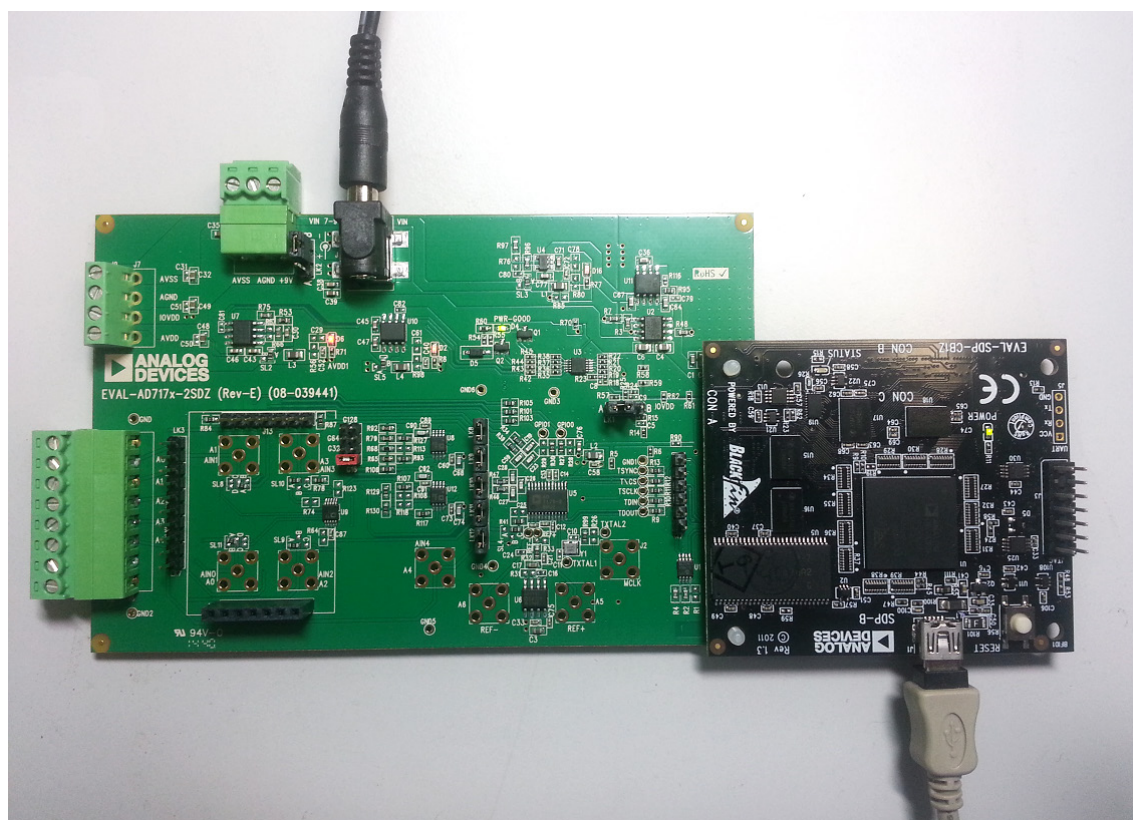

Figure 2. Hardware Configuration, Setting Up the EVAL-AD7175-2SDZ Evaluation Board
2. Connect the **SDP-B** board to the evaluation board, as shown in Figure 2.
4. Connect the external 9 V power supply to Connector J5 of the evaluation board as shown in Figure 2. Set Link LK2 to Position B.